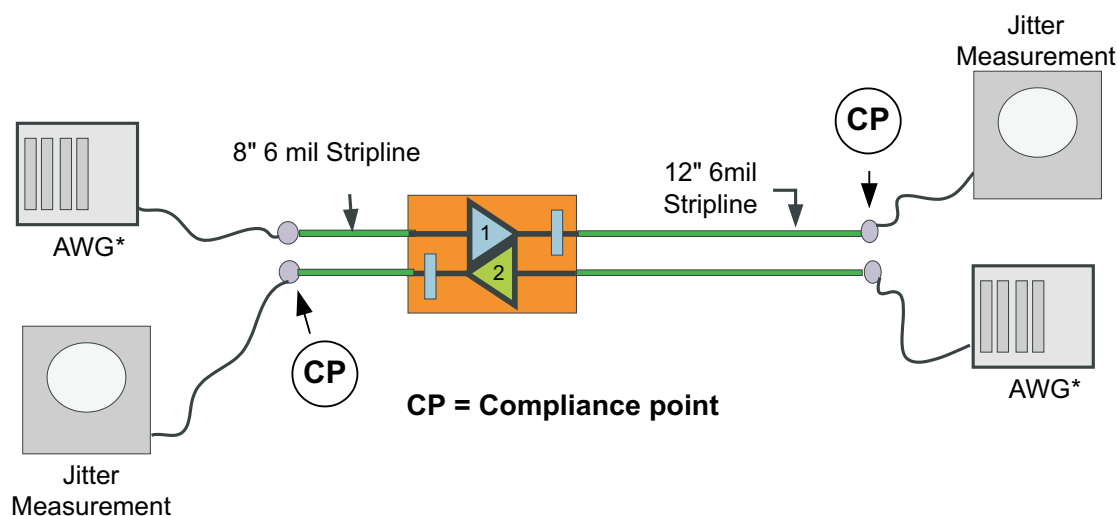

Figure 9. Jitter Measurement Test Condition
(1) TJ = (14.1 × RJ_{SD} + DJ), where RJ_{SD} is one standard deviation value of RJ Gaussian distribution. Jitter measurement is at the SATA connector and includes jitter generated at the package connection on the printed circuit board, and at the board interconnect as shown in Figure 9.